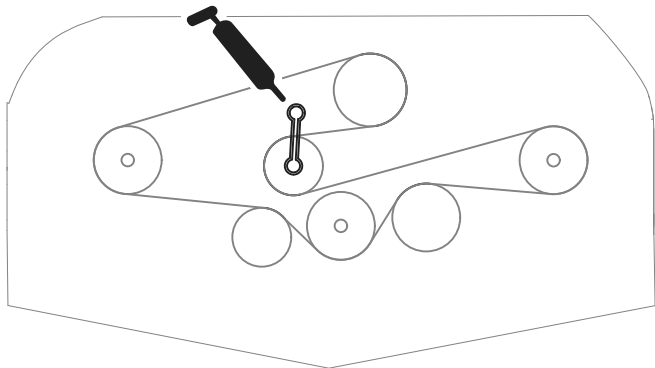

Figure 15
- Idler arm shaft bearings (Figure 15)